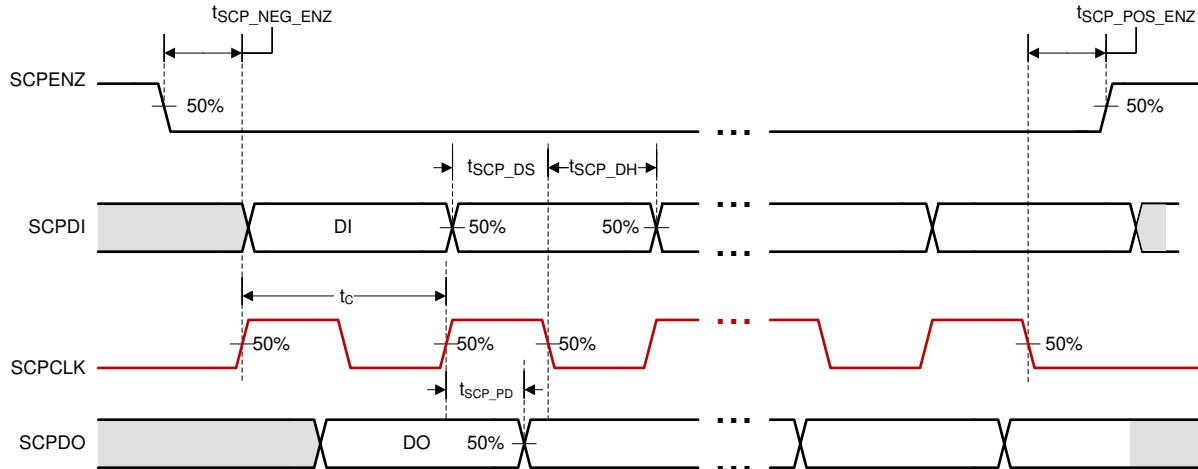

图 6-2. SCP Timing Requirements
- (6) Tester Conditions for VIH and VIL.
- (7) PWRDNZ input pin resets the SCP and disables the LVDS receivers. PWRDNZ input pin overrides SCPENZ input pin and tristates the SCPDO output pin.
- (8) The SCP clock is a gated clock. Duty cycle must be 50%  $\pm$  10%. The SCP parameter is related to the frequency of DCLK.
- (9) See 图 6-2.